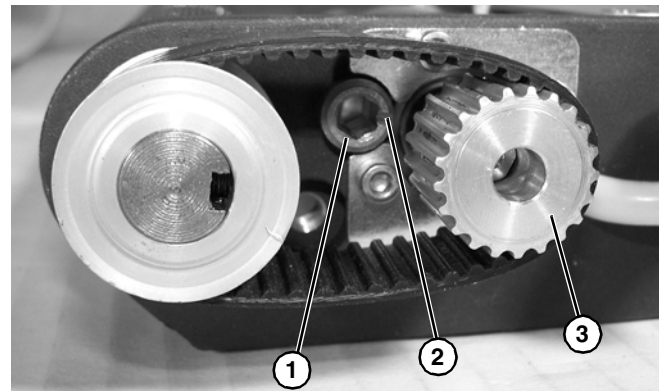
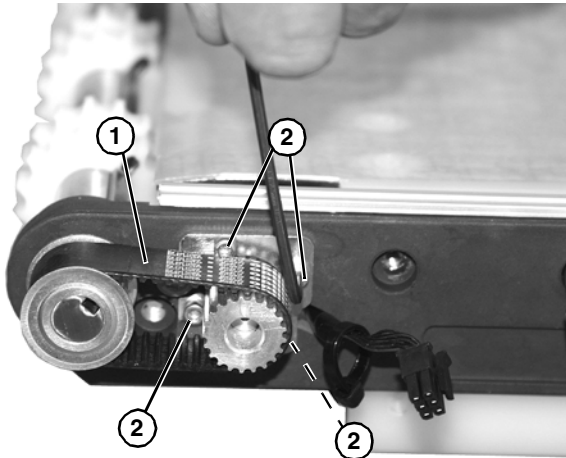

Figure 59
Figure 60
5. Tighten timing belt tension cam (Figure 59, item 1), making certain that pointer (Figure 59, item 2) on cam is pointing towards the motor drive spindle (Figure 59, item 3).
6. Rotate tension cam (Figure 59, item 1) to obtain 1/8 - 1/4" belt deflection at center of belt (Figure 60, item 1) with approximately 3-5 in-lb of pressure. Tighten four clamp plate screws (Figure 60, item 2) to 15 in-lb (1.6 Nm) to secure position.